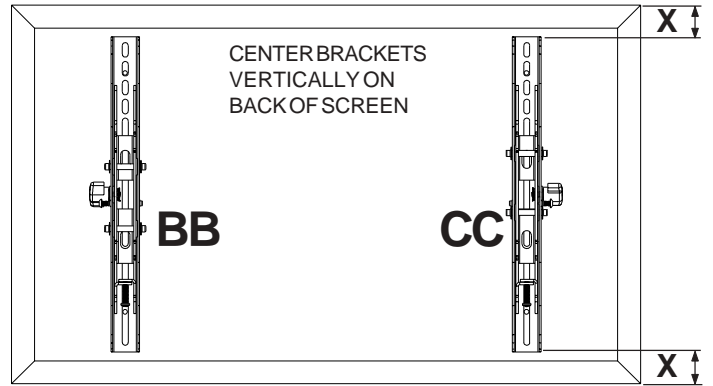
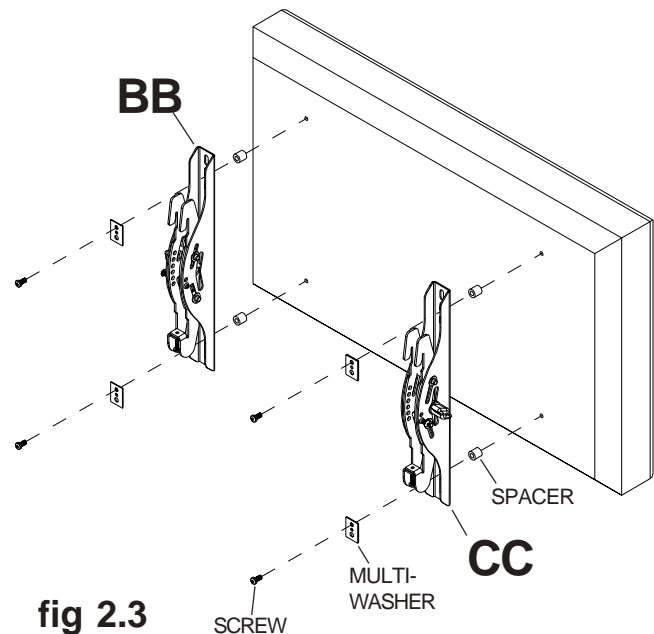

fig 2.1
fig 2.3
- 2 To prevent scratching the screen, set a cloth on a flat, level surface that will support the weight of the screen. Place screen face side down. If screen has knobs on the back, remove them to allow the adapter brackets to be attached. Place tilt brackets (**BB** and **CC**) on back of screen. Align to holes, and center on back of screen as shown in figure 2.1. Attach the tilt brackets to the back of the screen using the appropriate combination of screws, multi-washers, and spacers as shown in figure 2.3. **Note:** Be sure to attach tilt brackets with knobs facing outward as in figure 2.1.